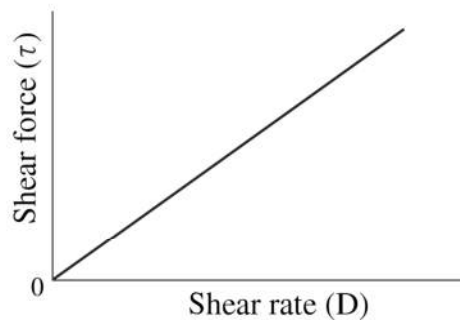

Figure 3
Figure 3 shows the relationship of equation (3) as a graph. Fluids where the relationship between  $\tau$  and  $D$  is linear are called **Newtonian fluids**. The steeper the slope of the straight line, the higher the viscosity.